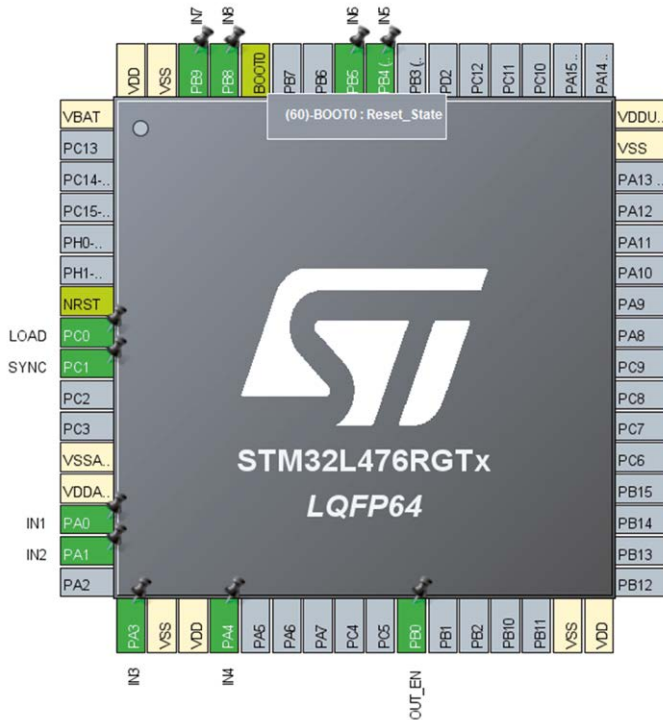

Figure 16.4: Configuring the GPIO pins.
- Click on pins **PA0** to **PB0** as shown above and configure these pins as **GPIO\_Output**. Click right mouse and give the following labels to the pins (Figure 16.4):